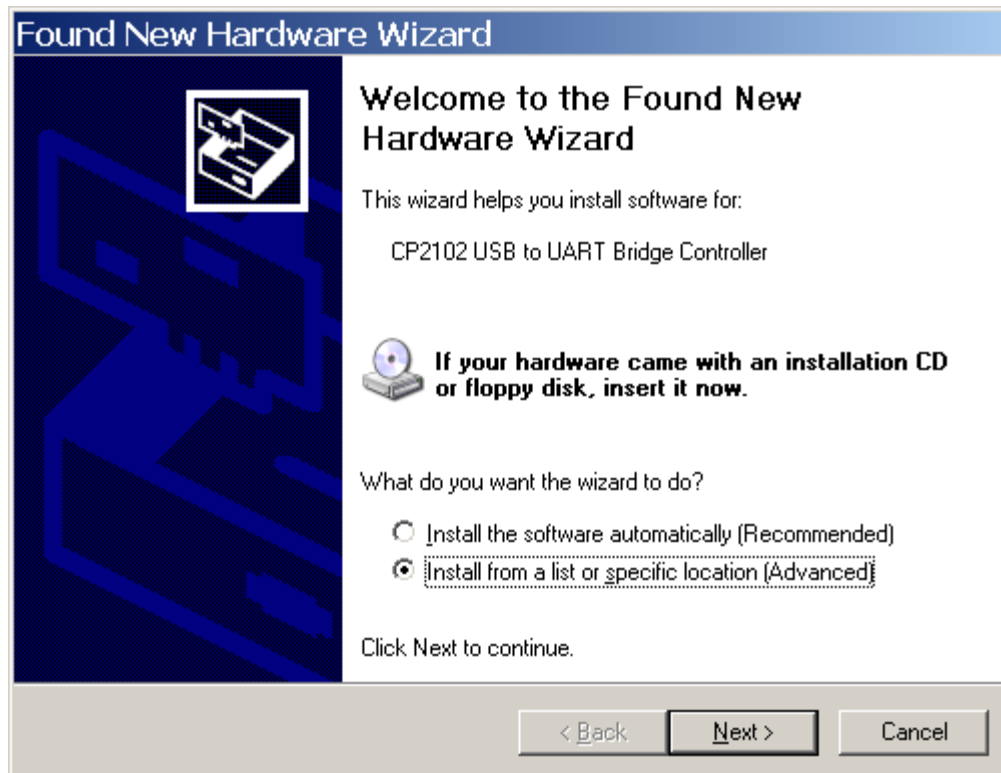

Figure 2: Found New Hardware Wizard
- 2.3.3 When the software installation completes, turn on the MTI Controller using the power switch on the top of the controller and plug the USB connector into your PC. The PC will determine whether it requires the drivers for the USB interface. If it does require drivers it will open a Found New Hardware Wizard window, (Figure 2: Found New Hardware Wizard) below, and ask where to find the drivers. Choose the "Install from a list or specific location" option and click on the Next button.